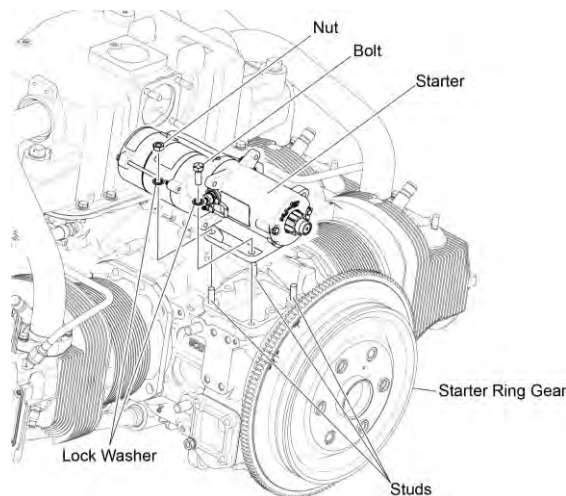

Figure 4
- (1) Disconnect the starter from electrical power.
- (2) Remove the three nuts and three lock washers, from the studs on the starter mounting plate (Figure 4) on the engine. Discard the lock washers.
- (3) Hold the starter, remove the bolt and lock washer. Discard the lock washer.
- (4) Remove the starter.
- (1) Align the starter with the three studs on the mounting plate (Figure 4).
- (2) Install a nut with a new lock washer on each of the three studs. Install the bolt and new lock washer. Torque the three nuts and bolt to 17 ft.-lb. (23 Nm).